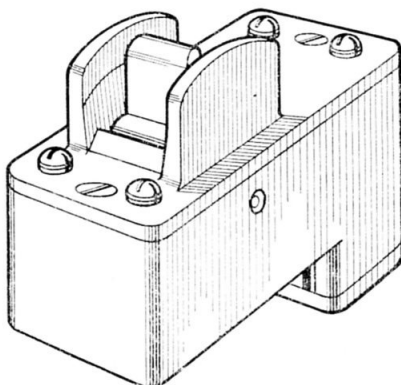

Fig. 1. General view of switch
1. The Type XMC switch (Stores Ref. 5CW/4194) shown in fig. 1 is of a three-position type suitable for controlling the engine ignition system of aircraft in which it is fitted. The switch lever is spring-loaded so that it assumes a central position when not being manipulated by the pilot.